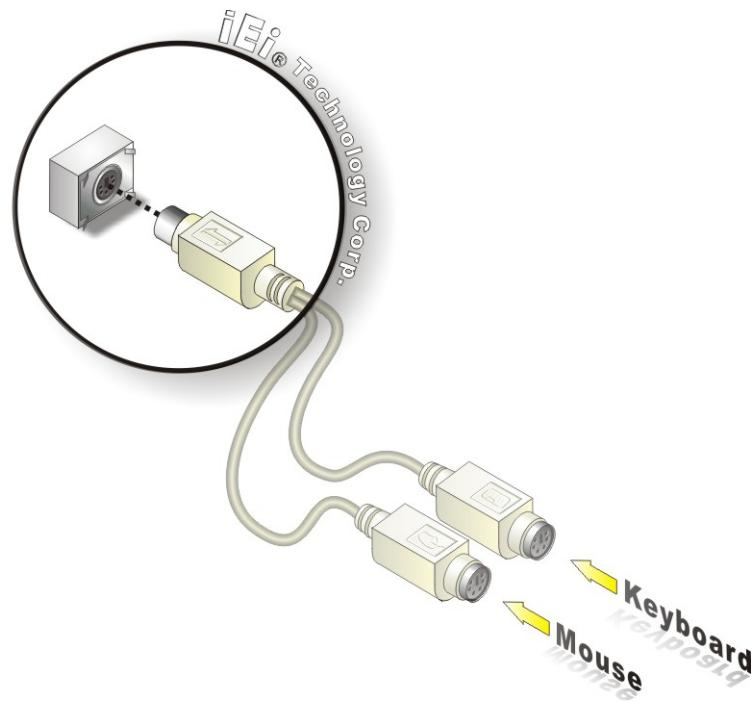

Figure 4-19: PS/2 Keyboard/Mouse Connector
**Step 2:** Insert the keyboard/mouse connector. Insert the PS/2 connector on the end of the PS/2 y-cable into the external PS/2 connector. See **Figure 4-19**.